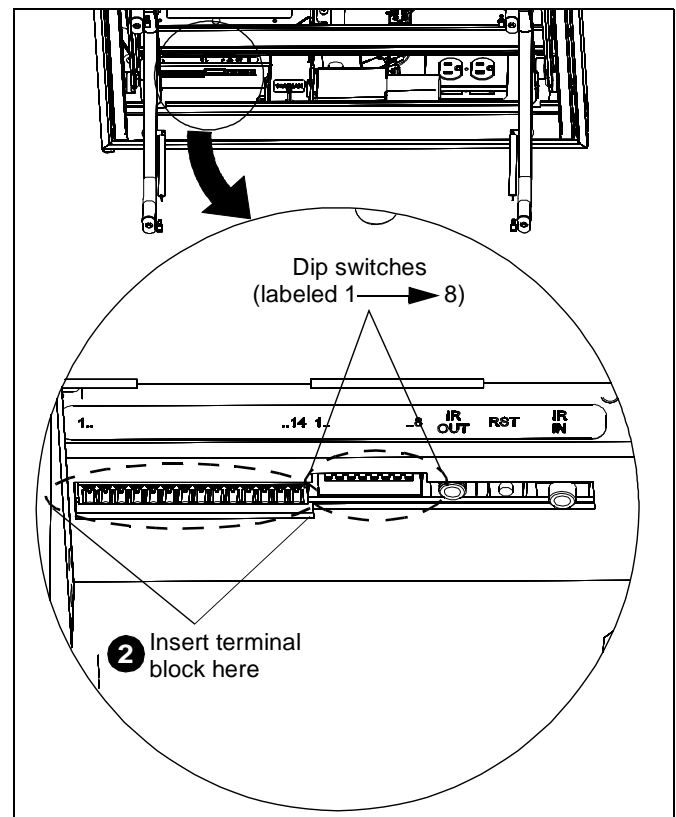

Figure 24
1. Use two-sided tape, or a similar attachment device to attach the IR sensor (S) in a convenient location for your installation.
2. Insert terminal block (R) into SL220. (See Figure 24)
**NOTE:** Any knockouts removed in the SL220 must be replaced with a supplied rubber grommet (T).
3. Flip DIP switch #8 (See Figure 24) to activate the Current Sense mode.